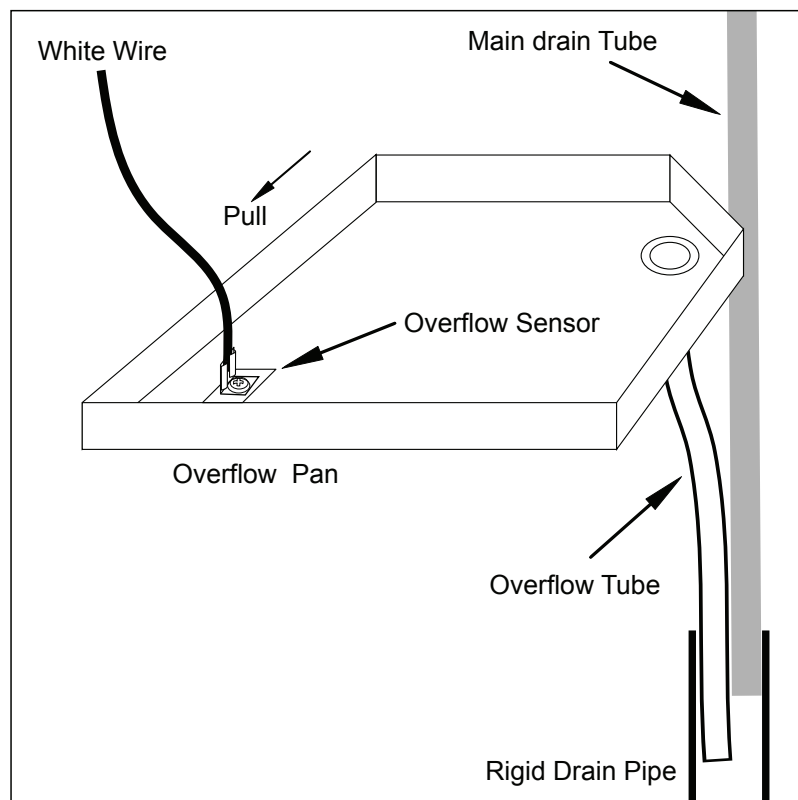

Fig. 16a
16.4 Unplug the white quick connect wire connected on the overflow pan at the bottom of the unit. This wire is connected to the overflow sensor. Please see Fig. 16a.
the unit by pulling it towards you. Please see Fig. 16a. Also remove the main drain tube from the rigid drain pipe attached to the wall and check that both tubes are clean and clear from deposits.